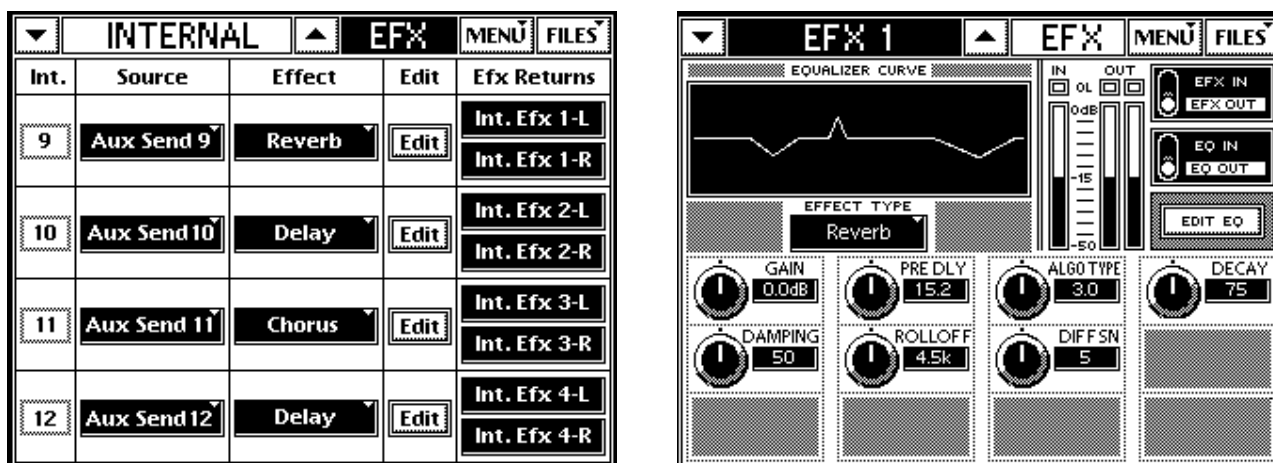

Figure 3-8 Internal Effects and Reverb screens
The **INTERNAL** effects screen displays on the Touchscreen (left of Figure 3-8).
5. Touch the Reverb's **Edit** button to edit its parameters on its own screen (right of Figure 3-8).